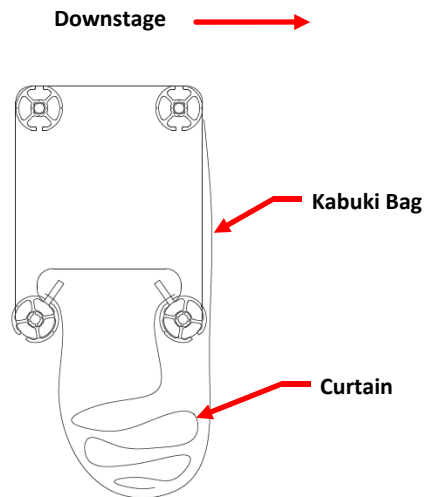

Figure 5
Step 2: West Coast (bunch) main curtain and bring the bottom edge of the Kabuki bag up and attach to the upstage **curtain rod** as you did with the main curtain (refer to Figure 5).